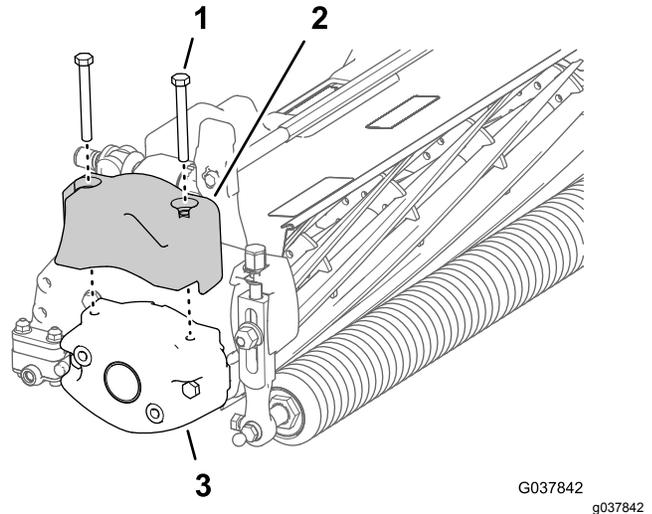

Figure 3
5. If you are installing the kit on a cutting unit of a TriFlex hybrid machine, remove the 2 cap screws that secure the electrical counterweight to the reel, and remove the counterweight (Figure 3).